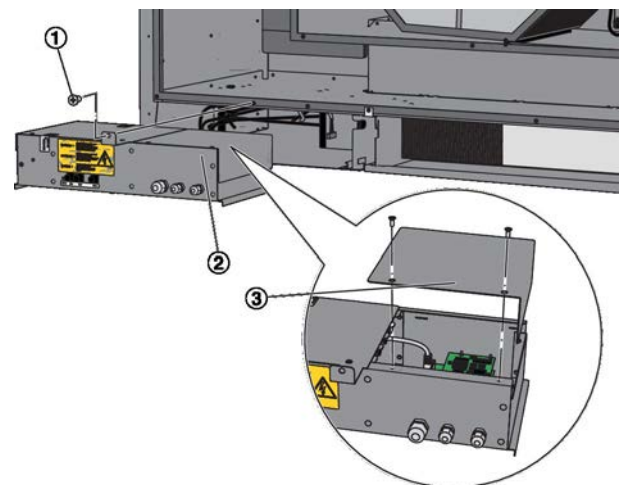

Fig. 5: Electrical connections
1. ▶ On the control equipment box (Fig. 5/2) loosen the Phillips screw (Fig. 5/1), then pull out the box. Loosen the screws on the cover (Fig. 5/3), then remove the cover.